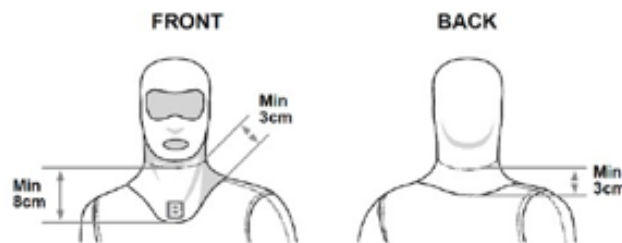

Figure 1 – minimum overlapping at the neck area.
**15.3.2** There is a minimum overlap required in the neck area (between the balaclava and the top underwear) of 3cm, except on the front central line where the overlap shall be at least of 8cm as shown in Figure 1.